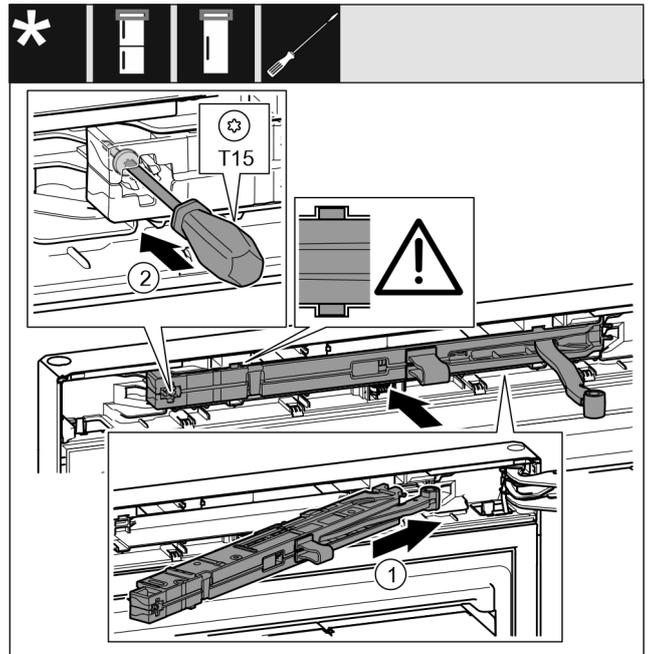

Fig. 60
- ▶ On the swap bearing block side, slide the closing damper unit Fig. 60 (1) into the recess at an angle up to the stop.
- ▶ Use a screwdriver to tighten the screw Fig. 60 (2).